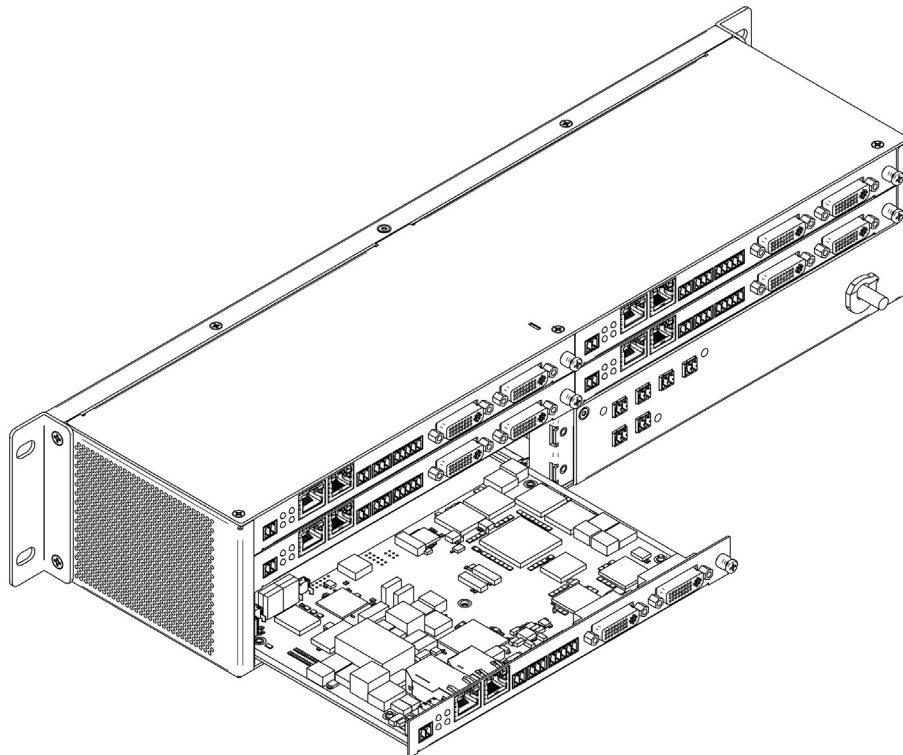

Figure 2-3. Rack Mounting Cards
1. Gently slide the card into cage slot. Make sure the card is properly aligned with guides. The card's front LED indicators should align with holes in the cage's faceplate. See Figure 2-3.